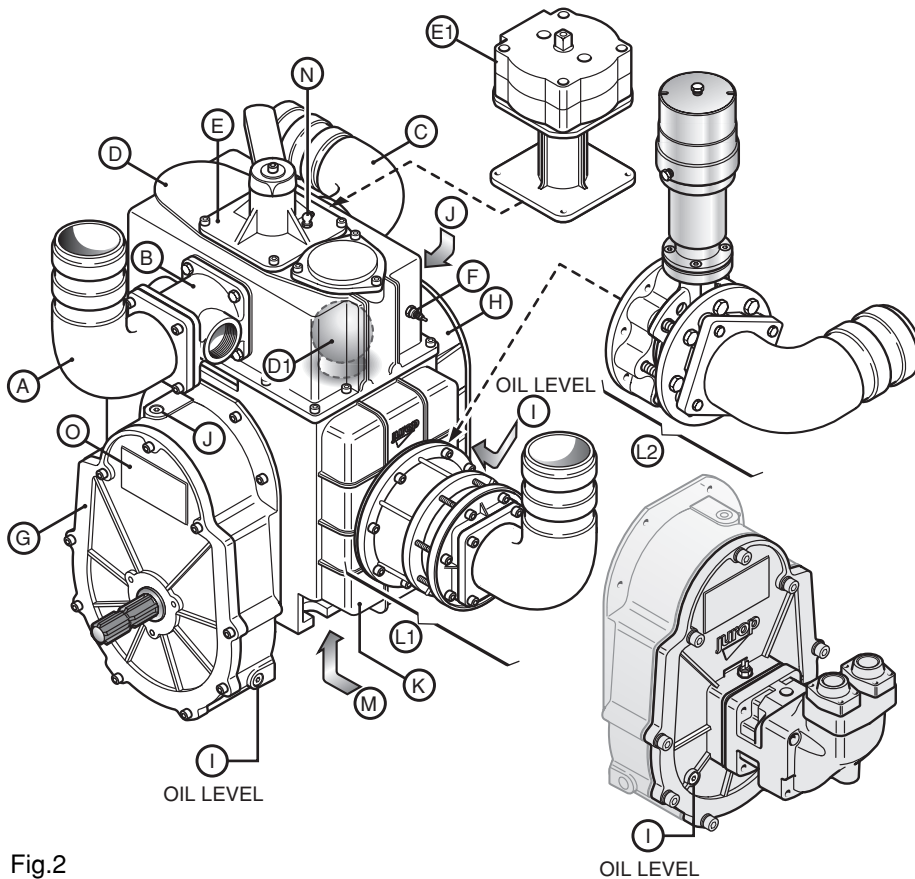

Fig.2
- Standard versions with a check valve on the injection system (Fig. 2) for versions without a pneumatic system.
- Versions available on request with a controlled butterfly valve (with check valve functions) on the injection system together with a pneumatic actuator on the vacuum/pressure change-over valve (Fig. 2) for equipment with pressurized air.
Legend of the components (Fig. 2)